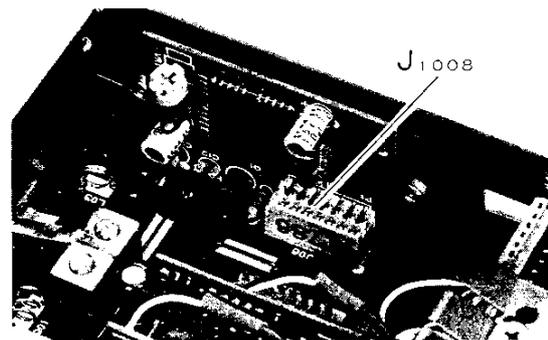

Figure 2
- 2) Referring to Figure 2, gently press the FTS-14 onto connector J1008 on the exposed circuit board.